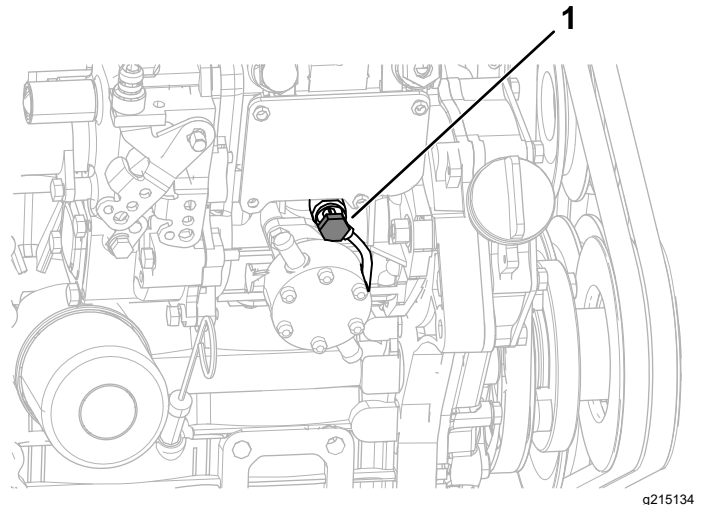

Figure 65
6. Open the air-bleed screw on the fuel-injection pump (Figure 65).
8. Tighten the air-bleed screw (Figure 65).